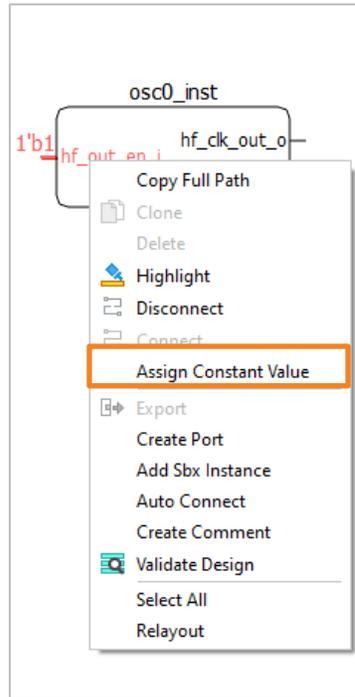

Figure 2.62. Right-click Menu of an Input Pin
1. Select the desired pin and right-click the pin. Choose **Assign Constant Value** (Figure 2.62).